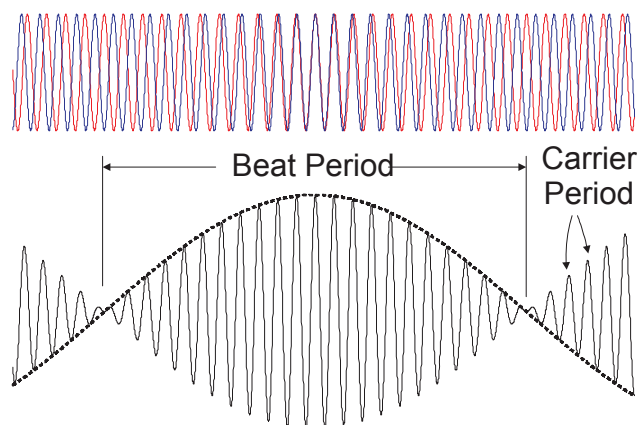

Figure 2.1: Two waves of different frequencies superposed to cause beats
The left side of the equation is displayed in the upper part of Fig. 2.1: the two waves have the same amplitude but different frequencies. If the two waves are added together, the result will appear as seen in the lower part of Fig. 2.1, which is described by the right side of Eq. (2.6). Notice that where the two waves are in phase (near the center) we have constructive interference (and a large amplitude) whereas where the waves are  $180^\circ$  out-of-phase we have destructive interference. The average of the two frequencies,  $\frac{f_1 + f_2}{2}$  applies to the rapid oscillations of the resulting wave, which is known as the *carrier wave*. The frequency  $\frac{f_1 - f_2}{2}$  applies to the slow variations of the carrier amplitude, shown as a dashed line in the lower figure.
3. It may be necessary to change the oscilloscope time base to obtain recognizable beats like in Fig. 2.1. When the beats are evident, click on **Run** button to freeze the display.